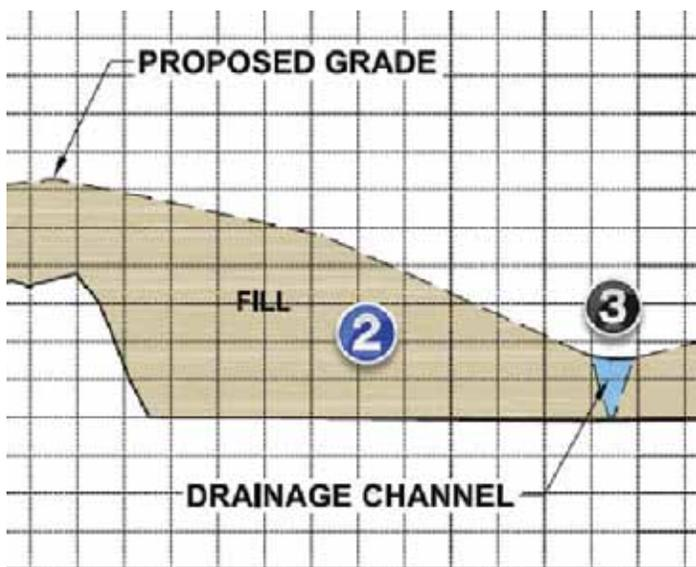

Figure 8: Fill and Drainage boundaries
Now we have to go back to our Profile View Properties dialog box and create two more fill patterns. Using the same technique, add the fill area (2) and the drainage area (3). You will have to use the profile layout tools to create a top boundary for your drainage area. In our example, I called this area “Drainage Channel” and gave that profile the name Channel. Once you have done that, you have completed all the boundaries you need to continue modifying the styles. Figure 8 shows the two new boundaries with fill styles using a solid hatch pattern. We have created or modified three shape styles: drainage, fill material, and cut material.